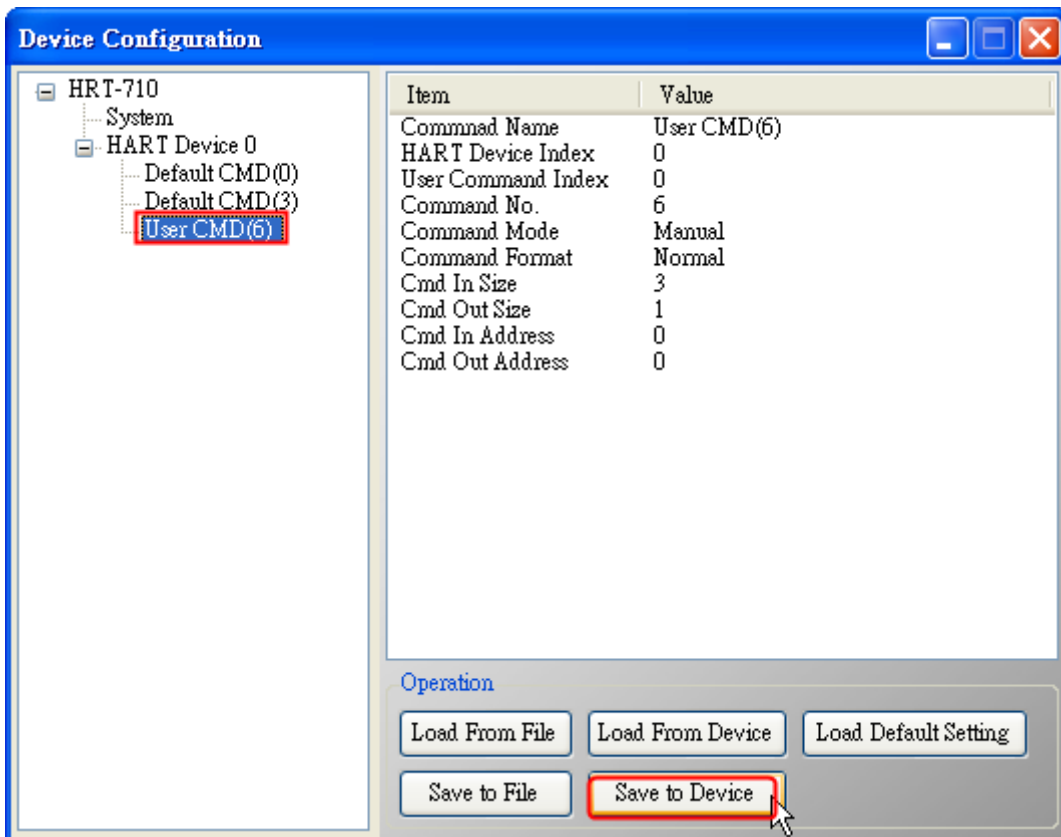

Figure 12-2 “Save to Device”
- (4) Click “Save to Device” button. (Figure 12-2)